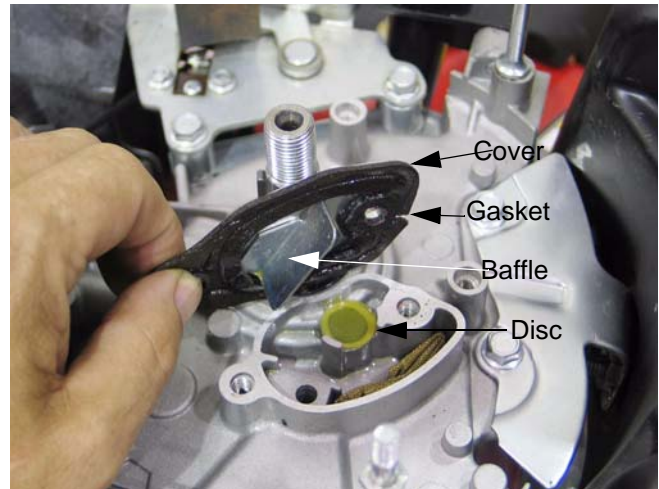

Figure 3.7
7. The cover and gasket can be separated from the chamber. See Figure 3.7.